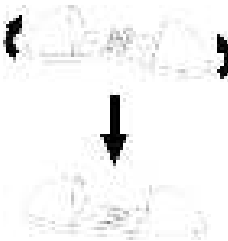
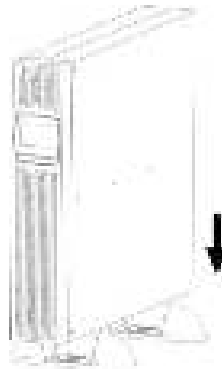

Figure 6: Foot mounting
Figure 7: Installation as a tower
2. Connect two foot components to one foot (see Figure 6) and push the UPS system into the two feet from above (see Figure 7). Make sure the distance between the two feet is as great as possible to ensure stability.